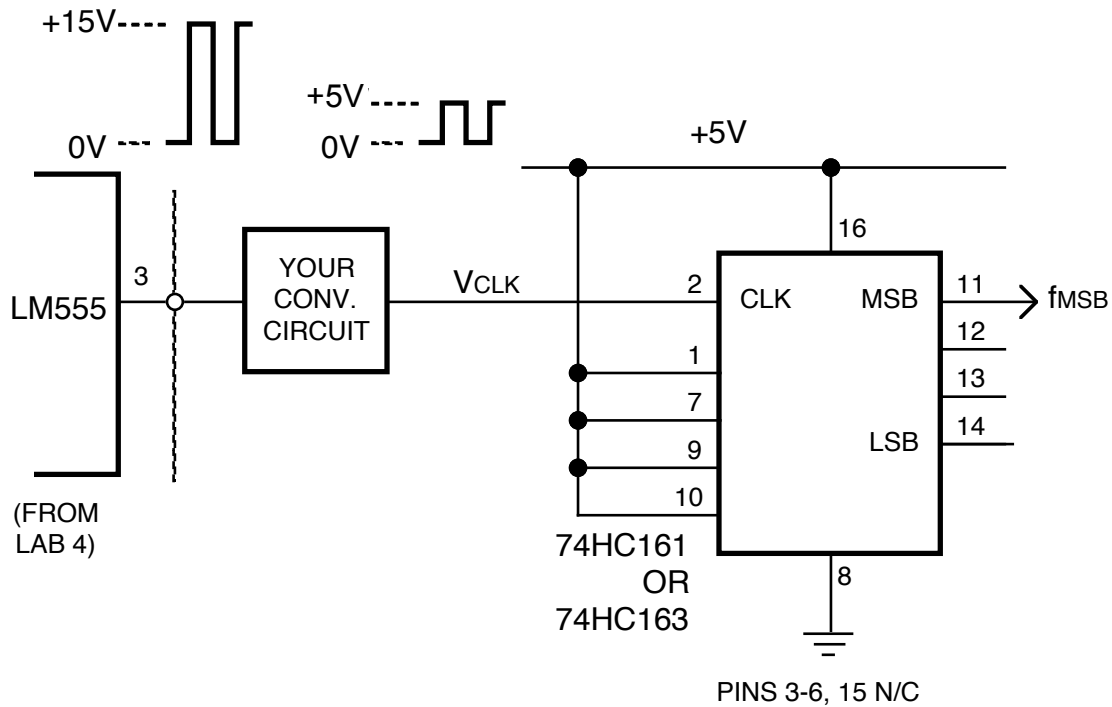

Figure 5.2.
- 1.2 Use the output of your conversion circuit as the input clock of the 74HC163 four-bit counter, as shown in Figure 5.2. Record the input and output waveforms, and measure the input and output frequencies to verify the $\div 16$ frequency relationship. If your lab station has a frequency counter available, you may want to use it since the accuracy is better than the oscilloscope time base. Do your measurements indicate that the $\div 16$ relationship is **exactly** 16? Explain.